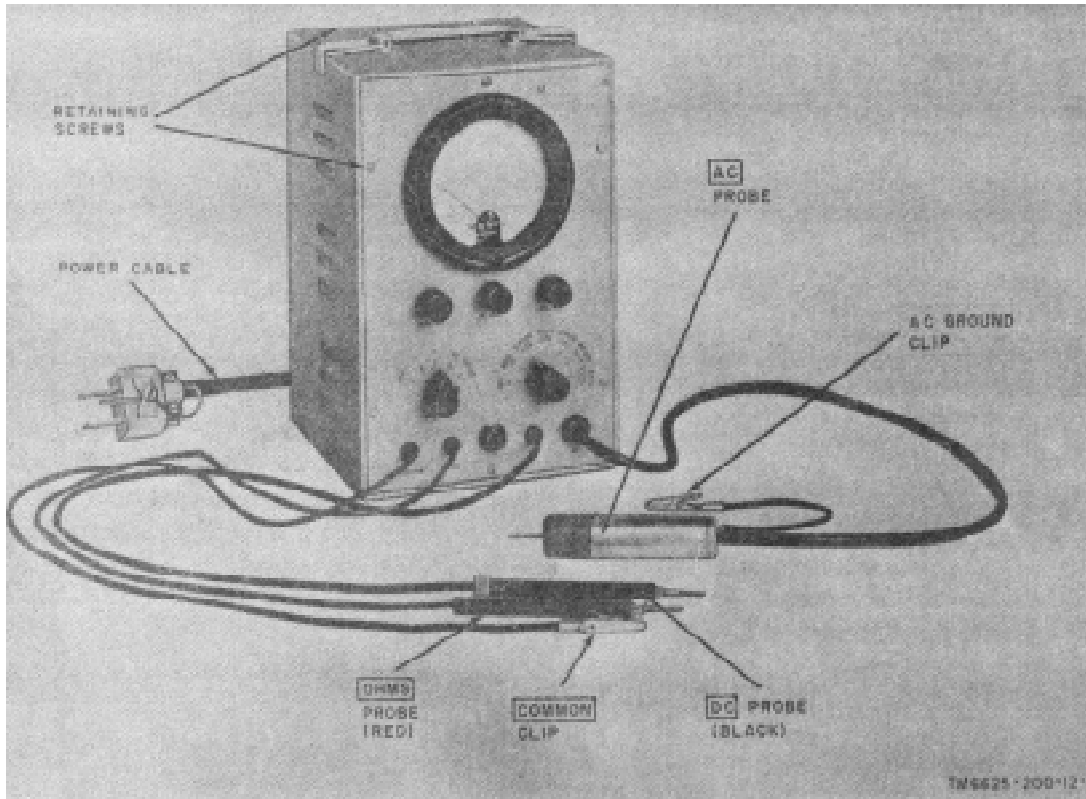
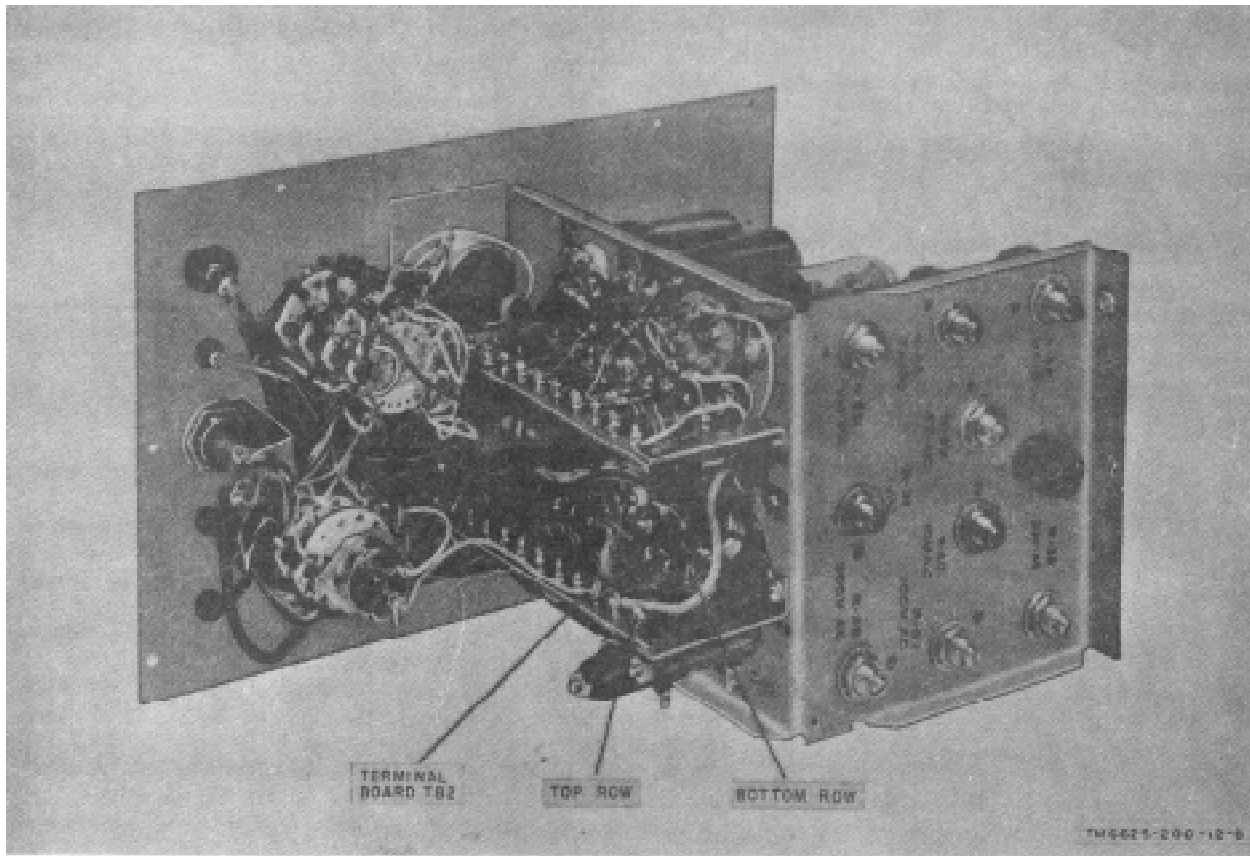

Figure 1-1. Multimeter ME-26B/U, less running spares.
Figure. 3-1. Multimeter ME-16B/U, ME-6C/U, and ME-26D/U chassis, bottom view, showing location of terminal board TB2.
1-4. Purpose and Use (fig. 1-1, 1-2)
The multimeter (figs. 1-1 and 1-2) consists of a chassis (figs. 3-1, 3-2, 4-1, and 4-2) contained in a metal case. All operating controls (figs. 3-2 and 3-3), the meter, and the pilot lamp are mounted on the front panel. The ME-26A/U test leads are mounted on a detachable connector and are attached to the underside of the multimeter. The ME-26B/U, the ME-26C/U, and the ME-26D/U test leads are permanently attached to the chassis and extend through the front panel. The ME-26B/U, the ME-26C/U, and the ME-26D/U power cables are contained in a storage compartment in the case. A rear cover is provided to reach the power cable, the fuse, and the storage compartment. The power cable and the fuse can be reached on the back of the ME-26A/U.
(3) Remove the chassis by gently sliding it forward out of the case, while lifting the power cable from the groove in the rear crosspiece.
(4) Remove the jumper which connects the first (rear) terminal on the bottom row of terminal board TB2 (fig. 3-1) and the second (next to rear) terminal on the top row; also remove the jumper which connects the second terminal on the bottom row and the third terminal on the top row.
(5) Connect a jumper from the first to the second terminal on the bottom row of terminal board TB2.
(6) Slide the chassis back into the case and replace the retaining screws.
(7) Replace the 1.5-ampere fuse with a ¾ ampere fuse.
(8) Replace the rear cover.
(1) Perform the procedures given in a(1), (2), and (3) above.
(2) Remove the jumper which connects the first (rear) and second terminals on the bottom row of terminal board TB2 (fig. 3-1).
(3) Connect a jumper from the first terminal on the bottom row to the second (next to rear) terminal on the top row.
(4) Connect a jumper from the second terminal on the bottom row to the third terminal on the top row.
(5) Slide the chassis back into the case and replace the retaining screws.
(6) Replace the S/3-ampere fuse with a 1.5-ampere fuse.
(7) Replace the rear cover.